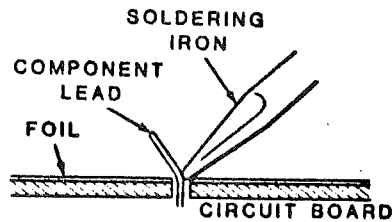

figure 2.5
a) Hold the tip of the iron against both the lead and the solder pad. Heat both of these for a second or two. fig 2.5.